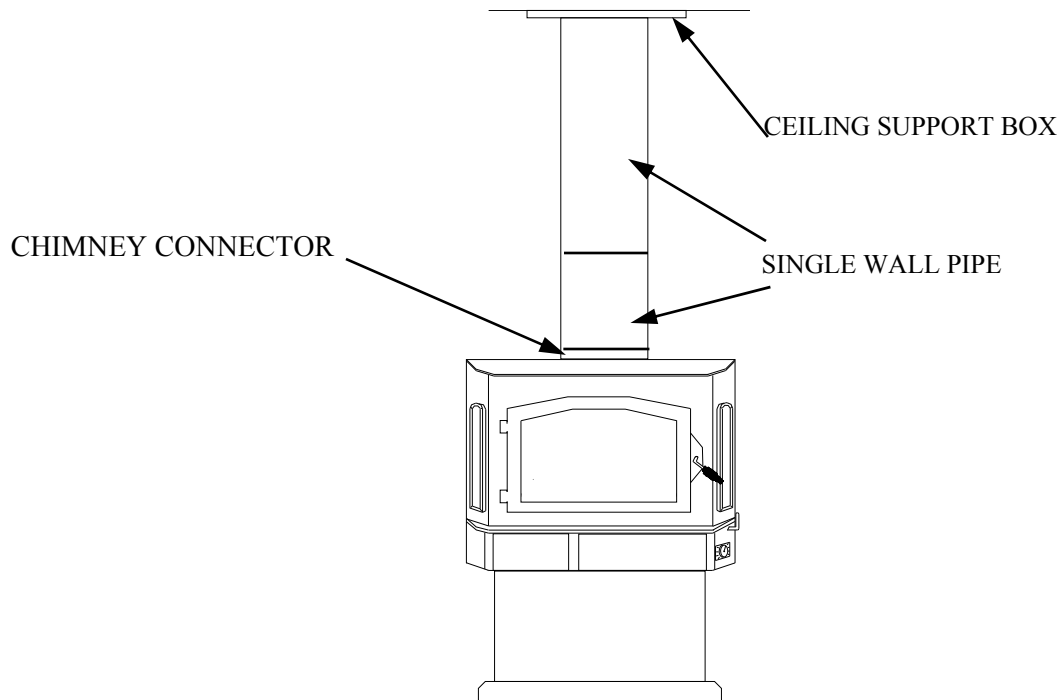

Figure 13
10. Using an electric drill and 3/8" masonry bit, drill four (4) holes in protective pad using holes in bottom of pedestal stand as a guide. Be careful to drill only through pad and not into floor. Change the bit to a 1/4" metal bit and drill through floor.
11. Using four (4) 3/8" x 1-1/2" lag bolts provided, secure pedestal stand and pad to floor of home.
14. Secure outside air duct to inside bottom of pedestal using four (4) #10x1 screws provided. (See Figure 13).
5. Using single wall chimney connector, connect heater to chimney by following manufacturer's installation instructions exactly. (See Figure 13).